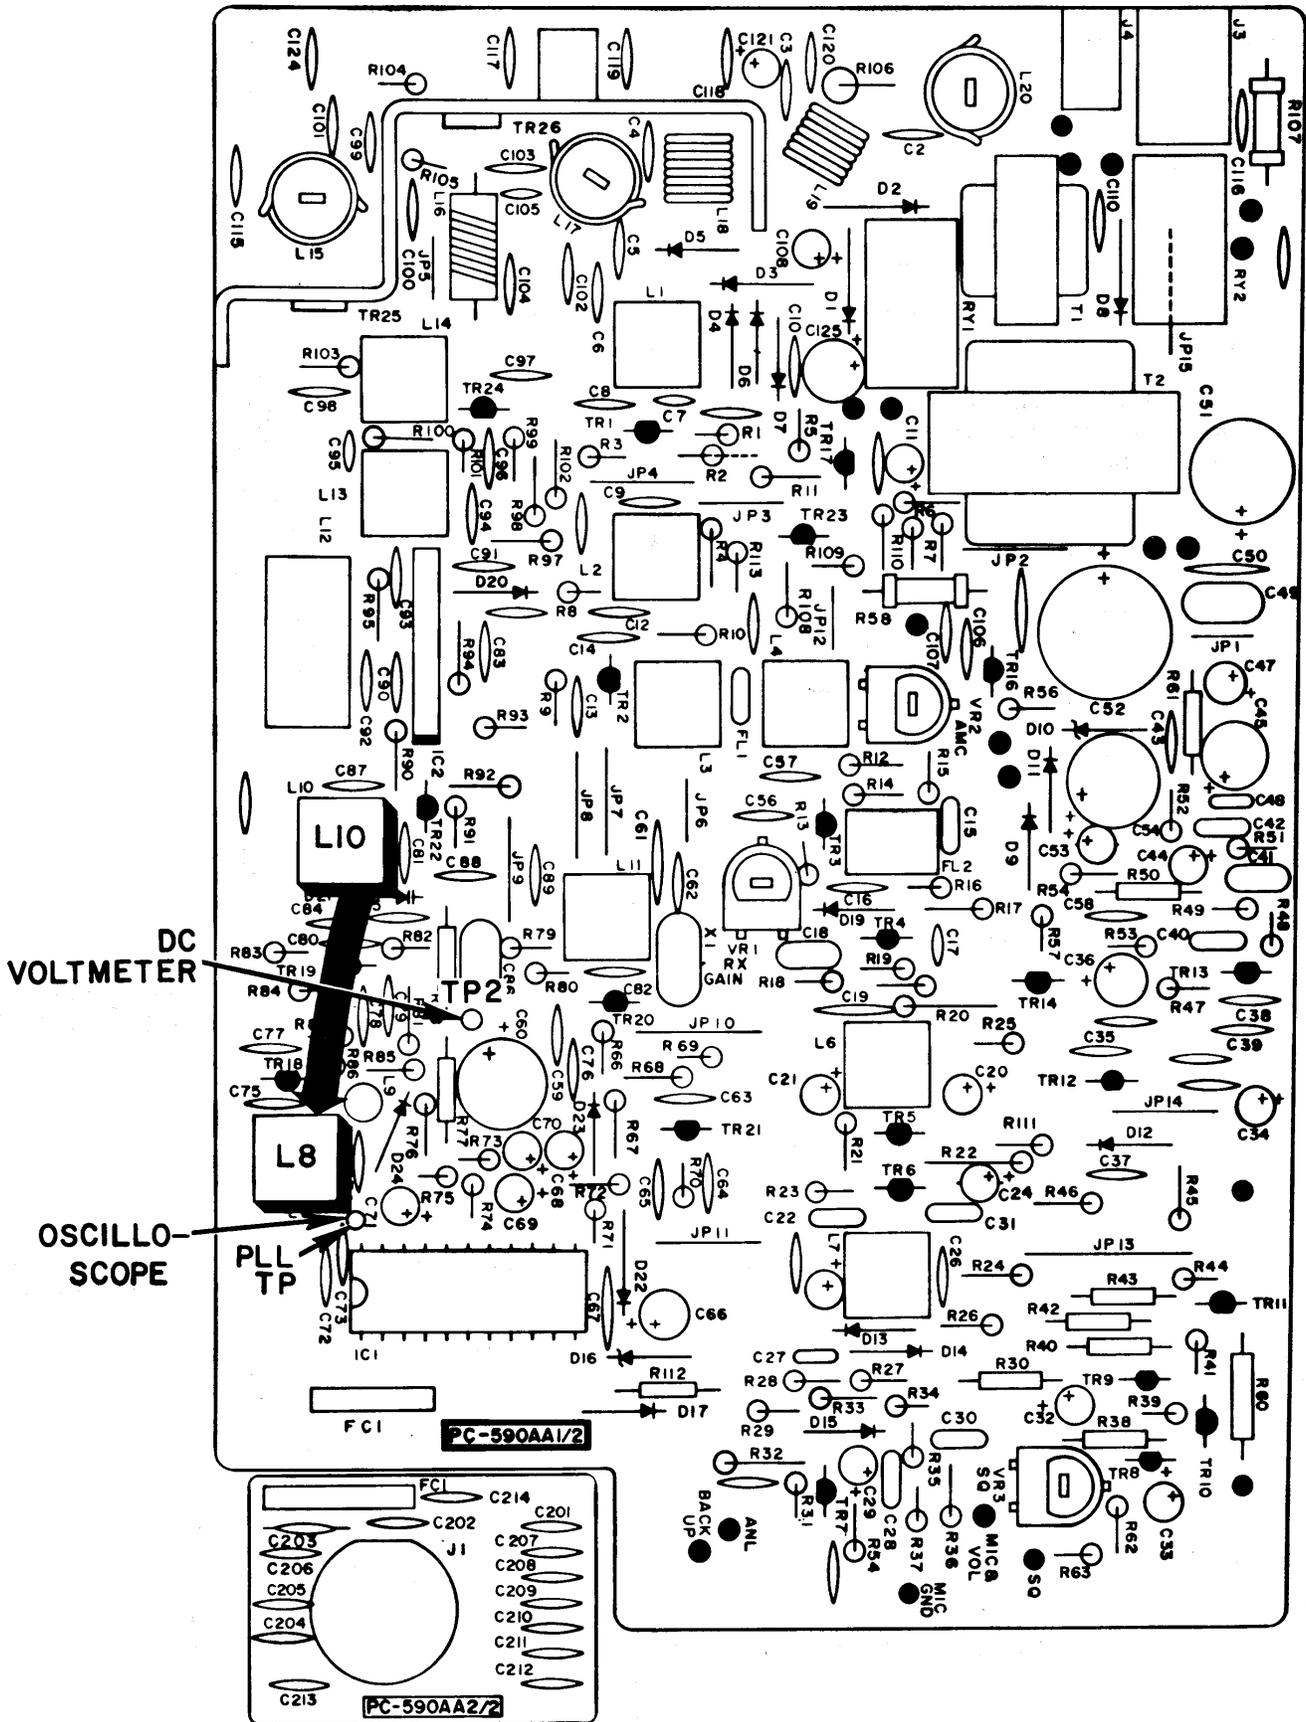

Figure 1 - PLL Alignment Points
1. Connect the DC Voltmeter to test point TP2 as shown in Figure 1. Set receiver to Channel 40. Adjust L10 for a reading of 4.0 VDC on meter.
3. Connect the oscilloscope to the PLL test point, see Figure 1, reset the receiver to Channel 40 and adjust coil L8 for maximum indication on the oscilloscope.